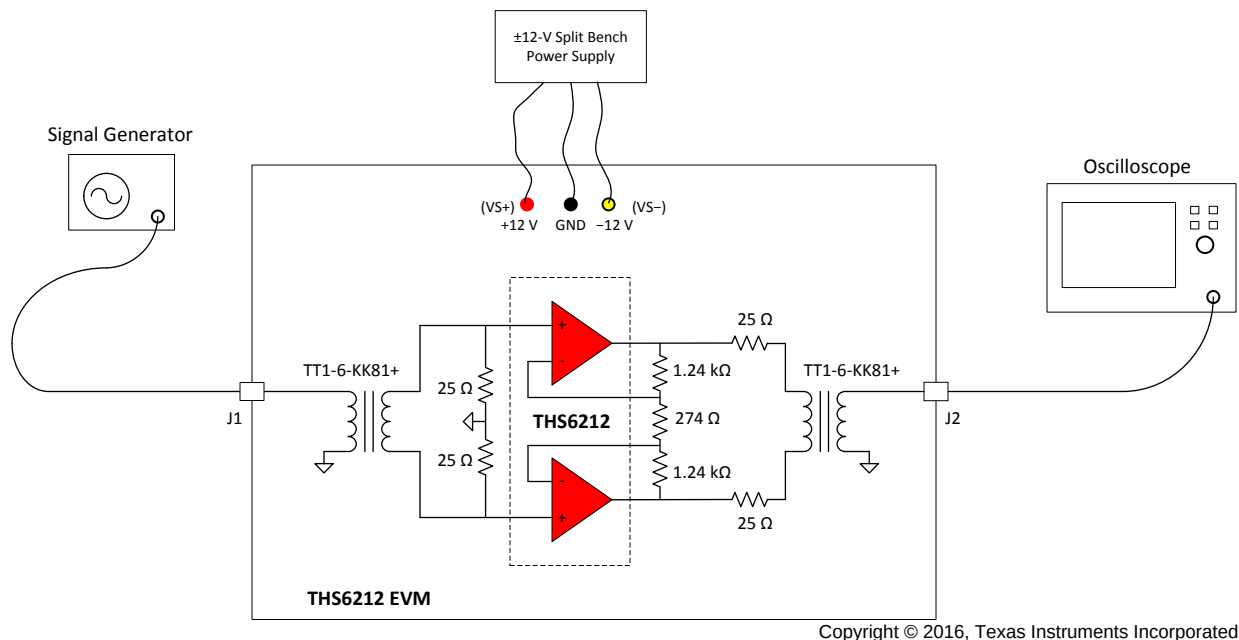

Figure 1. THS6212 EVM Default Configuration Setup Block Diagram
2.2 Power Supply Setup (Reference Figure 1)
2.3 Input and Output Test Setup (Reference Figure 1)